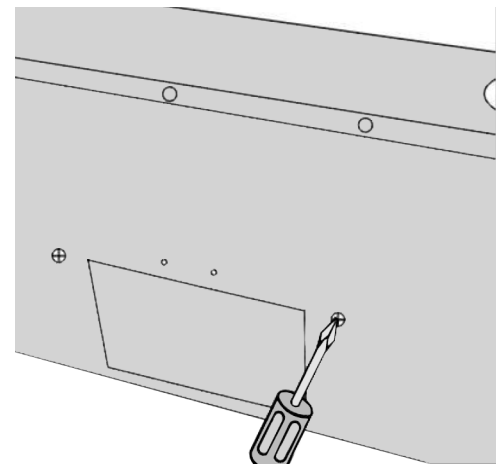

Figure 9
- Install 4 screws to hold motor – Use a screw driver to perform operation – NOT A DRILL as it may strip the motor housing thread (see Figure 9).